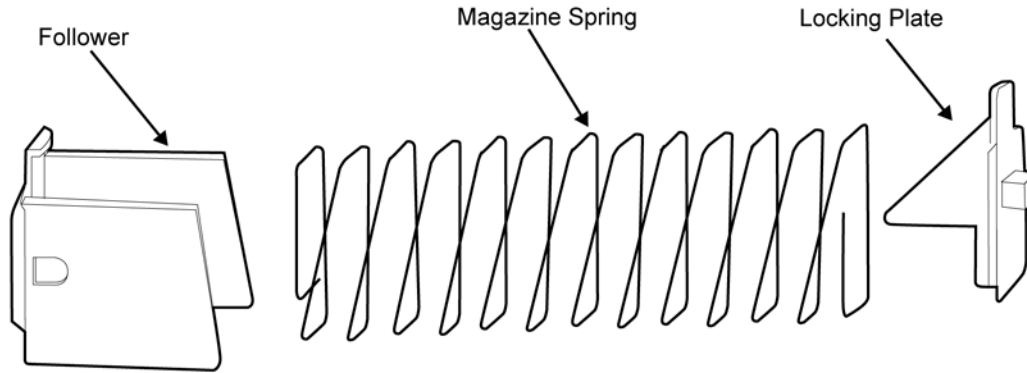

Figure 26. Follower, Magazine Spring, and Locking Plate Removed.
2. Remove the locking plate, spring, and follower from the magazine body. Refer to Figure 26.